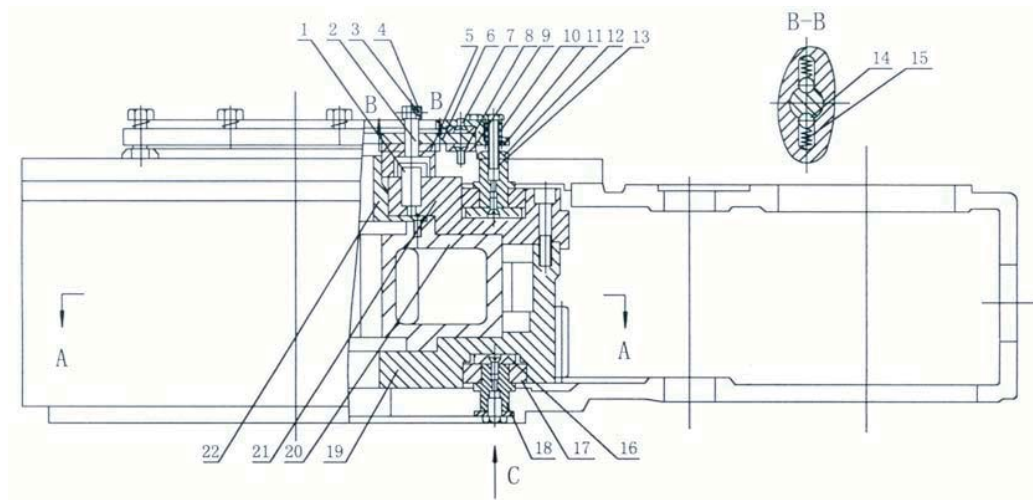

Fig 2 Main View of Tong Head Assembly
2.2 Tong Head Assembly (Fig.2, Fig.3, Fig.4)
2.2.1 Clamping Mechanism (Fig.2, Fig.3)
2.2.2 Braking Mechanism (Fig.2)
2.2.3 Reset Mechanism (Fig.2)
2.2.4 Centralizing Mechanism (Fig.2 and Fig.4)